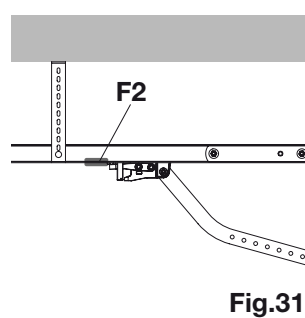

Fig.31
- Open the leaf completely and then fix the other mechanical stop resting on the drive carriage (figure 31 ref. F2).